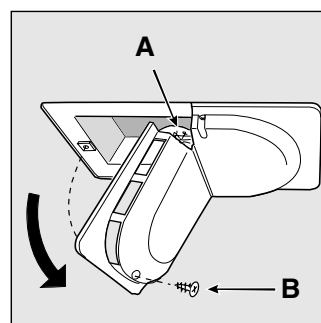

Fig. 9
- Replacing the light bulb. The bulb for lighting the interior of the refrigerator is located at the back of the thermostat box. When replacing the lamp, unplug the appliance from the electrical socket, unscrew the burned out lamp and replace it with another with a wattage no higher than 15W. For access to lamp "A", remove the centre screw "B" at the back of the lamp cover, as indicated in fig. 9.